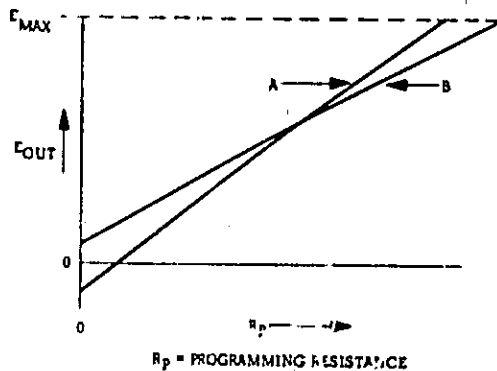
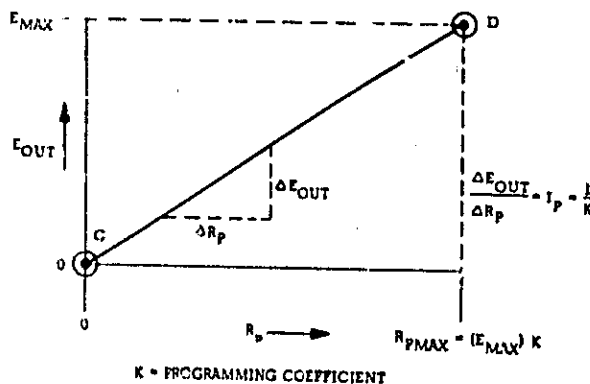

Figure 3-6. Unaligned Resistance Programming Characteristics
Figure 3-7. Aligned Resistance Programming Transfer Function
3-37 Figure 3-6 shows two resistance programming characteristics which are typical (although somewhat exaggerated) of the performance without programming alignment. The output voltage with zero programming always will differ from zero, being either positive (V) or negative (A), and the maximum output voltage will be achieved with a value of programming resistance not predicted by the programming coefficient.
3-38 Notice, however, that even with an unaligned instrument the typical characteristics of A and B are extremely linear — that is, there is no curvature. To convert either of the characteristics of Figure 3-6 to the desired programming characteristic of Figure 3-7, it is necessary to adjust both the zero crossing and the angle of slope of the programming characteristic.